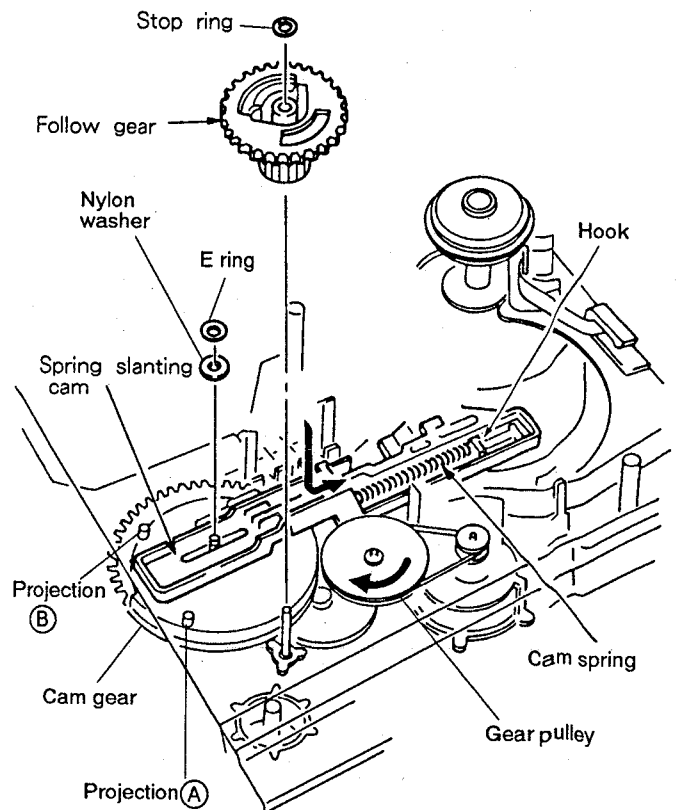

Fig. 13
③ Install a nylon washer and an E ring, and hang the cam spring on the hook. (Fig.13)
*Note: The cam gear and spring slanting cam as shown in Fig.13 are positioned when installing the slide cam.*
- ③ Install the stop ring. (Fig.13)
- ① Set the position of projection (A) and (B) of the cam gear by turning the gear pulley clockwise by hand as shown in Fig.13.